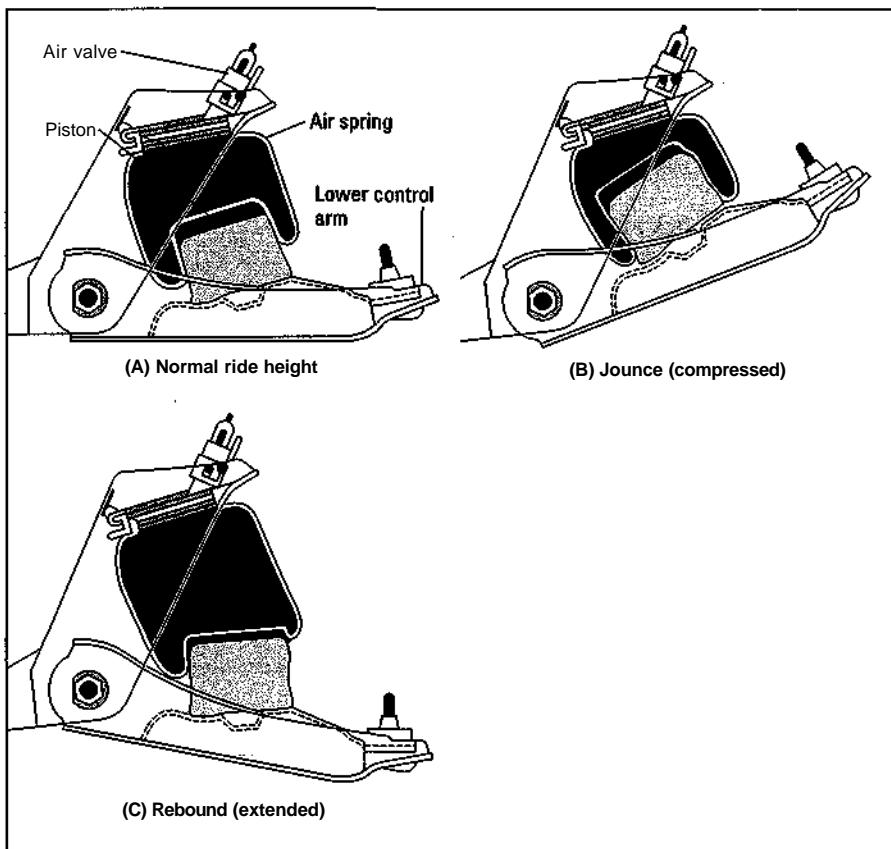

Figure 16-10:
**** Air springs:** These are filled with the right amount of compressed air to control the ride and maintain the proper height. A computer monitors the ride height and signals an on-board air compressor to pump more air into the air springs whenever weight is added to the vehicle. When the weight is removed, the computer turns on an exhaust solenoid to let air out of the air springs (see Figure 16-10). Usually, there's nothing to lubricate with air springs. But check with the dealer to find out whether it's okay to apply a rubber conditioner to the air bags to prevent them from wearing out prematurely.